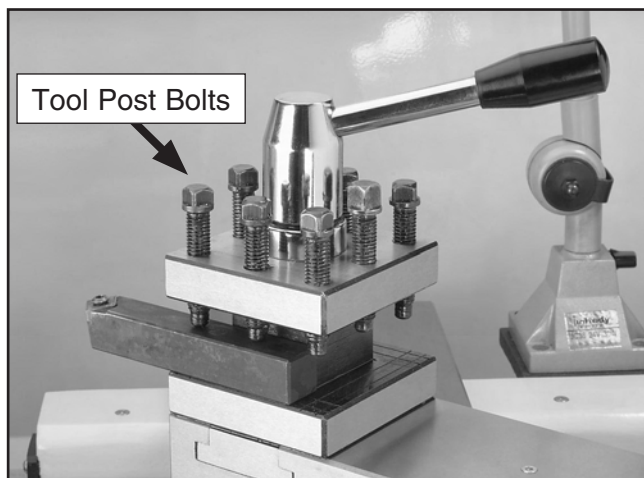

Figure 45. Tool holder and tool post.
3. Use a minimum of two tool post bolts to hold down the cutting tool and tighten firmly (see **Figure 45**).